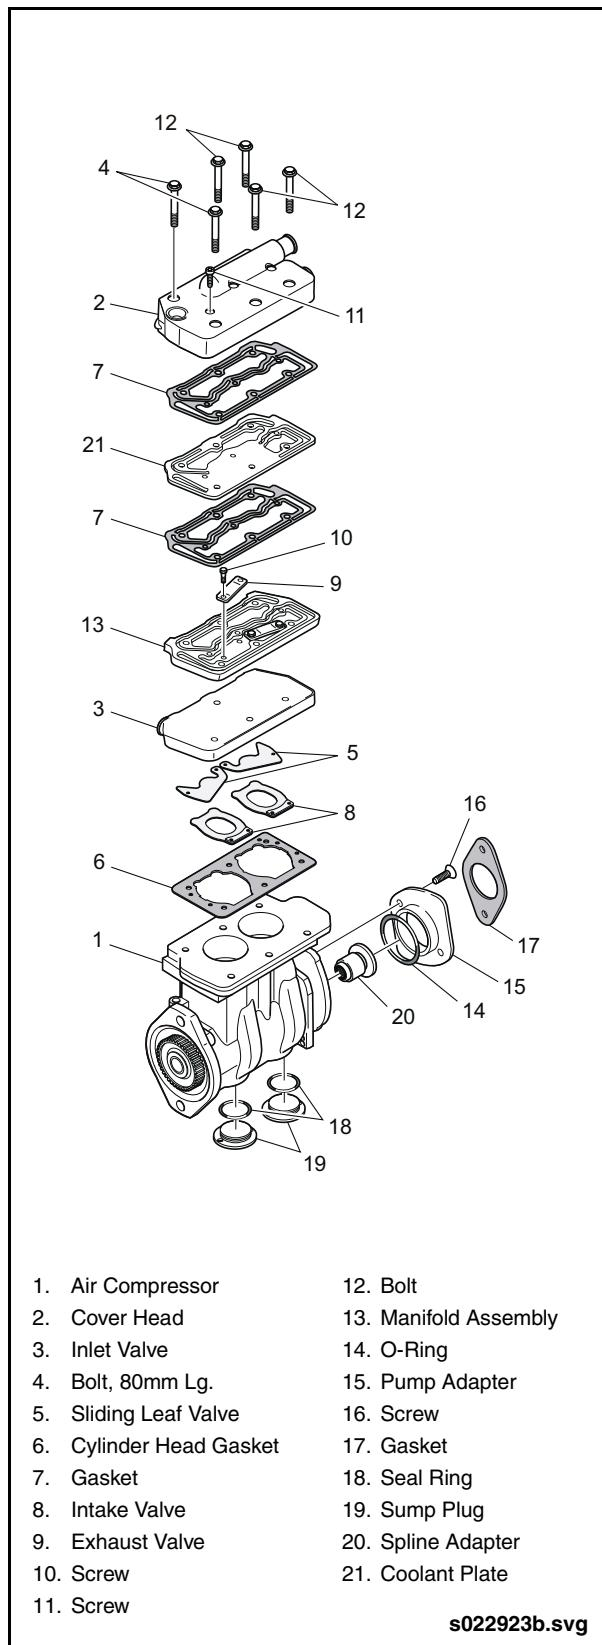

Fig. 8-2: Air Compressor Assembly
1. Remove the six M8 head bolts and the three M6 Torx screws holding the head to the compressor. Discard the bolts and screws. See "Fig. 8-2: Air Compressor Assembly" on page 25.